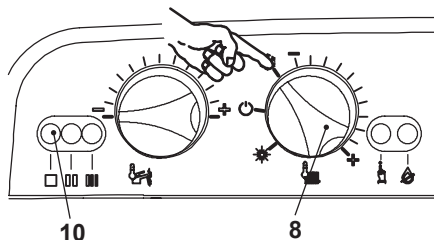

Fig. 2.4
- Turn on the electricity supply to the boiler switching on the fused spur isolation switch. The appliance operation light 10 (Fig. 2.4) will flash every 4 seconds (stand-by condition).
- If the boiler is to be used for c.h. and d.h.w., position the function selector 8 as in Fig. 2.4. The appliance operation light 10 will